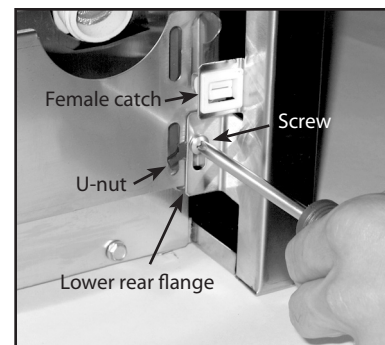

Fig. 09
6. Place both top risers on top of unit as shown in (Fig. 09).